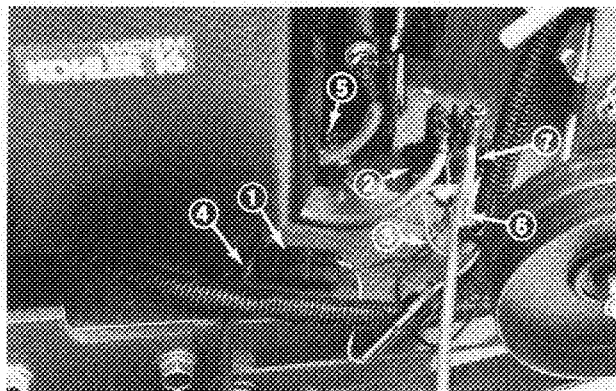

Figure 8
2. At left side of engine, secure male and female clutch connectors (Fig. 8).
3. Secure negative, black battery cable and ring terminal wire from clutch connector to left rear engine mounting bolt with a 5/16 — 18 locknut (Fig. 8).
4. Secure remaining ring terminal wire from wire harness and Positive, red battery cable to rear terminal of starter solenoid with a 1/4 — 20 locknut (Fig. 8).